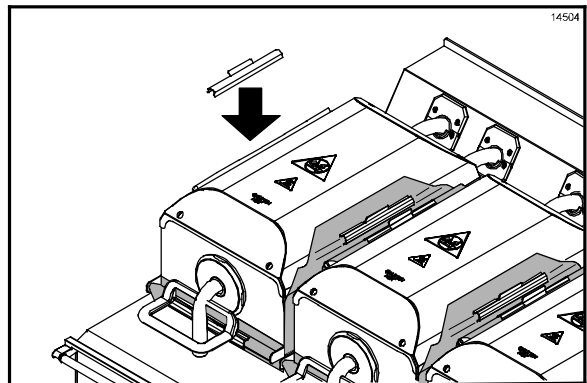

Figure 111
43. Re-install the release sheets on the opposite side than previously used. Secure the sheets with the locking clips and bars. (See Figure 111.)